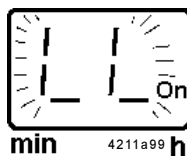

Fig. 29 - Display of a low-level indication
- In the case of a low-level indication the pump does not switch off immediately. The current lube cycle is completed. Upon expiration of the pause time, the pump cannot be started automatically again. The flashing indication * LL * appears on the display of the membrane key pad (fig. 29).